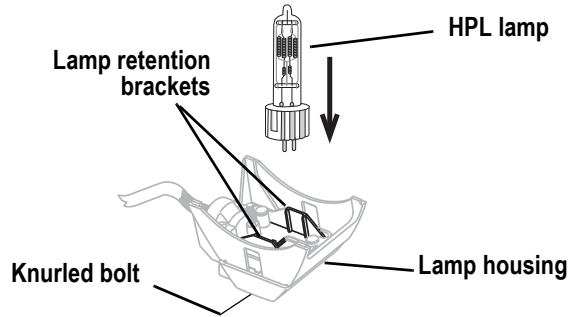

Figure 3
- Step 4: Align the flat sides of the lamp base with the retention brackets on either side of the socket as shown in Figure 3.
Step 1: To protect the lamp housing during cleaning, remove the lamp housing by loosening the knurled bolt and pulling the housing straight out. See Figure 3.